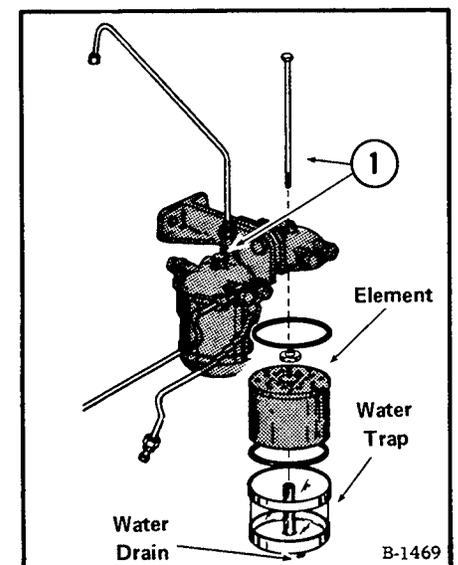

Fig. 1-26 Fuel Filter Parts
- (1) Carefully clean filter housing area.
- (2) Loosen and remove retaining screws of both primary and secondary filters (Fig. 1-26, Item 1).
- (3) Remove filter cartridges and O-ring seals.
- (4) Clean water trap and fuel bowl.
- (5) Install new filters and O-ring seals of identical type. Hold firmly in position while tightening retaining screw. **DO NOT** overtighten!
- (6) After filters are reassembled, it is necessary to remove air from the fuel system. See "Changing the fuel system" below.